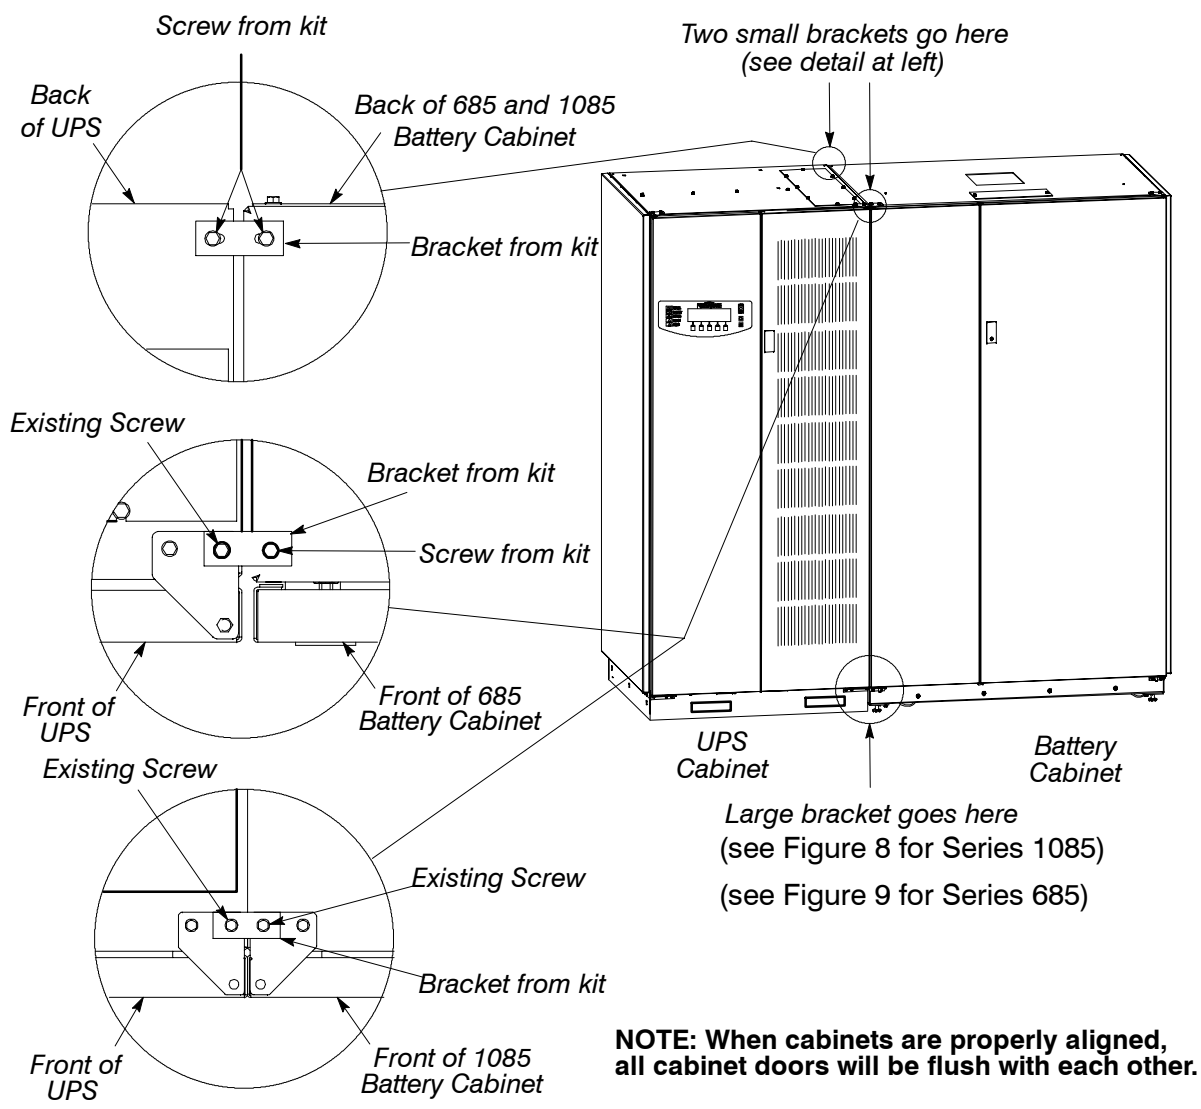

Figure 7. Placement of Attaching Brackets, UPS to Battery Cabinet
2. Roll the battery cabinet to a spot near the right-hand side of the UPS, as shown in Figure 7.
7. For Series 685 Battery Cabinets, remove the right-hand screw from the top right door hinge of the UPS cabinet. Align the hole in one flat bracket over this screw hole, and the other hole over the hole in the top of the battery cabinet. Replace the screw in the hinge, and attach the other end of the bracket to the top of the battery cabinet using an M4 × 10 hex screw from the field kit (see Figure 7).
8. For Series 1085 Battery Cabinets, remove the right-hand screw from the top right door hinge of the UPS cabinet, and the right-hand screw from the top left door hinge of the battery cabinet. Align the holes in the flat bracket over these screw holes and then replace the screws in the hinges (see Figure 7).
9. Align the holes in the other small flat bracket with the two holes in the top rear of the UPS and the battery cabinet. Attach each end to its mating hole using an M4 × 10 hex screw from the field kit (see Figure 7).